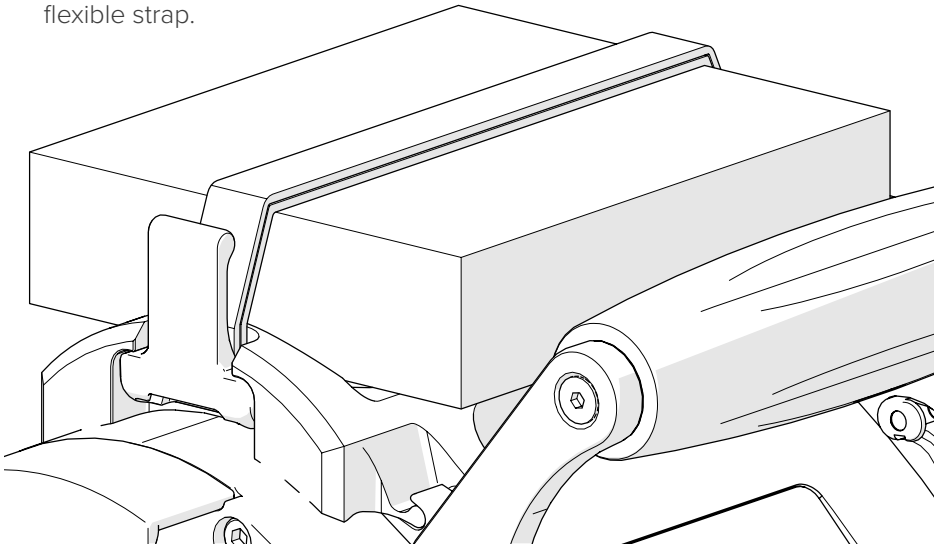

Fig. 86 - Press lever into backpack to lock in place
2. Place the scanning accessory on the backpack. Pull the strap lever across the accessory and fit the lever into place on the backpack (*Fig. 86*).